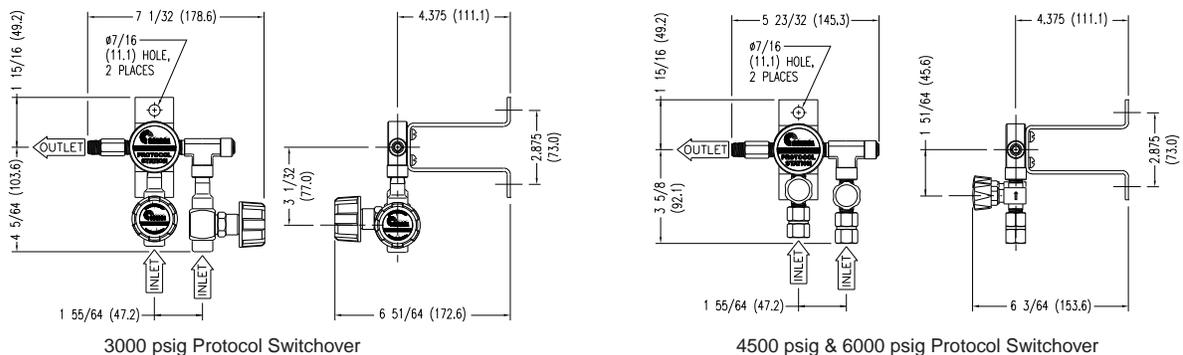

Figure 2 - Protocol Switchover Station
1. The Protocol Switchover Station shall be securely fastened to a wall using fasteners appropriate for the wall construction. Mounting dimensions are provided in Figure 2 and 3.